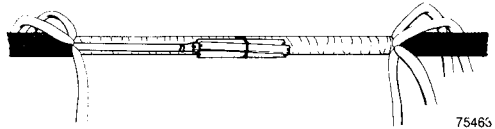

Fig. 82—First group bundled to core.
- k. Lay against core and bundle. See Figure 82.